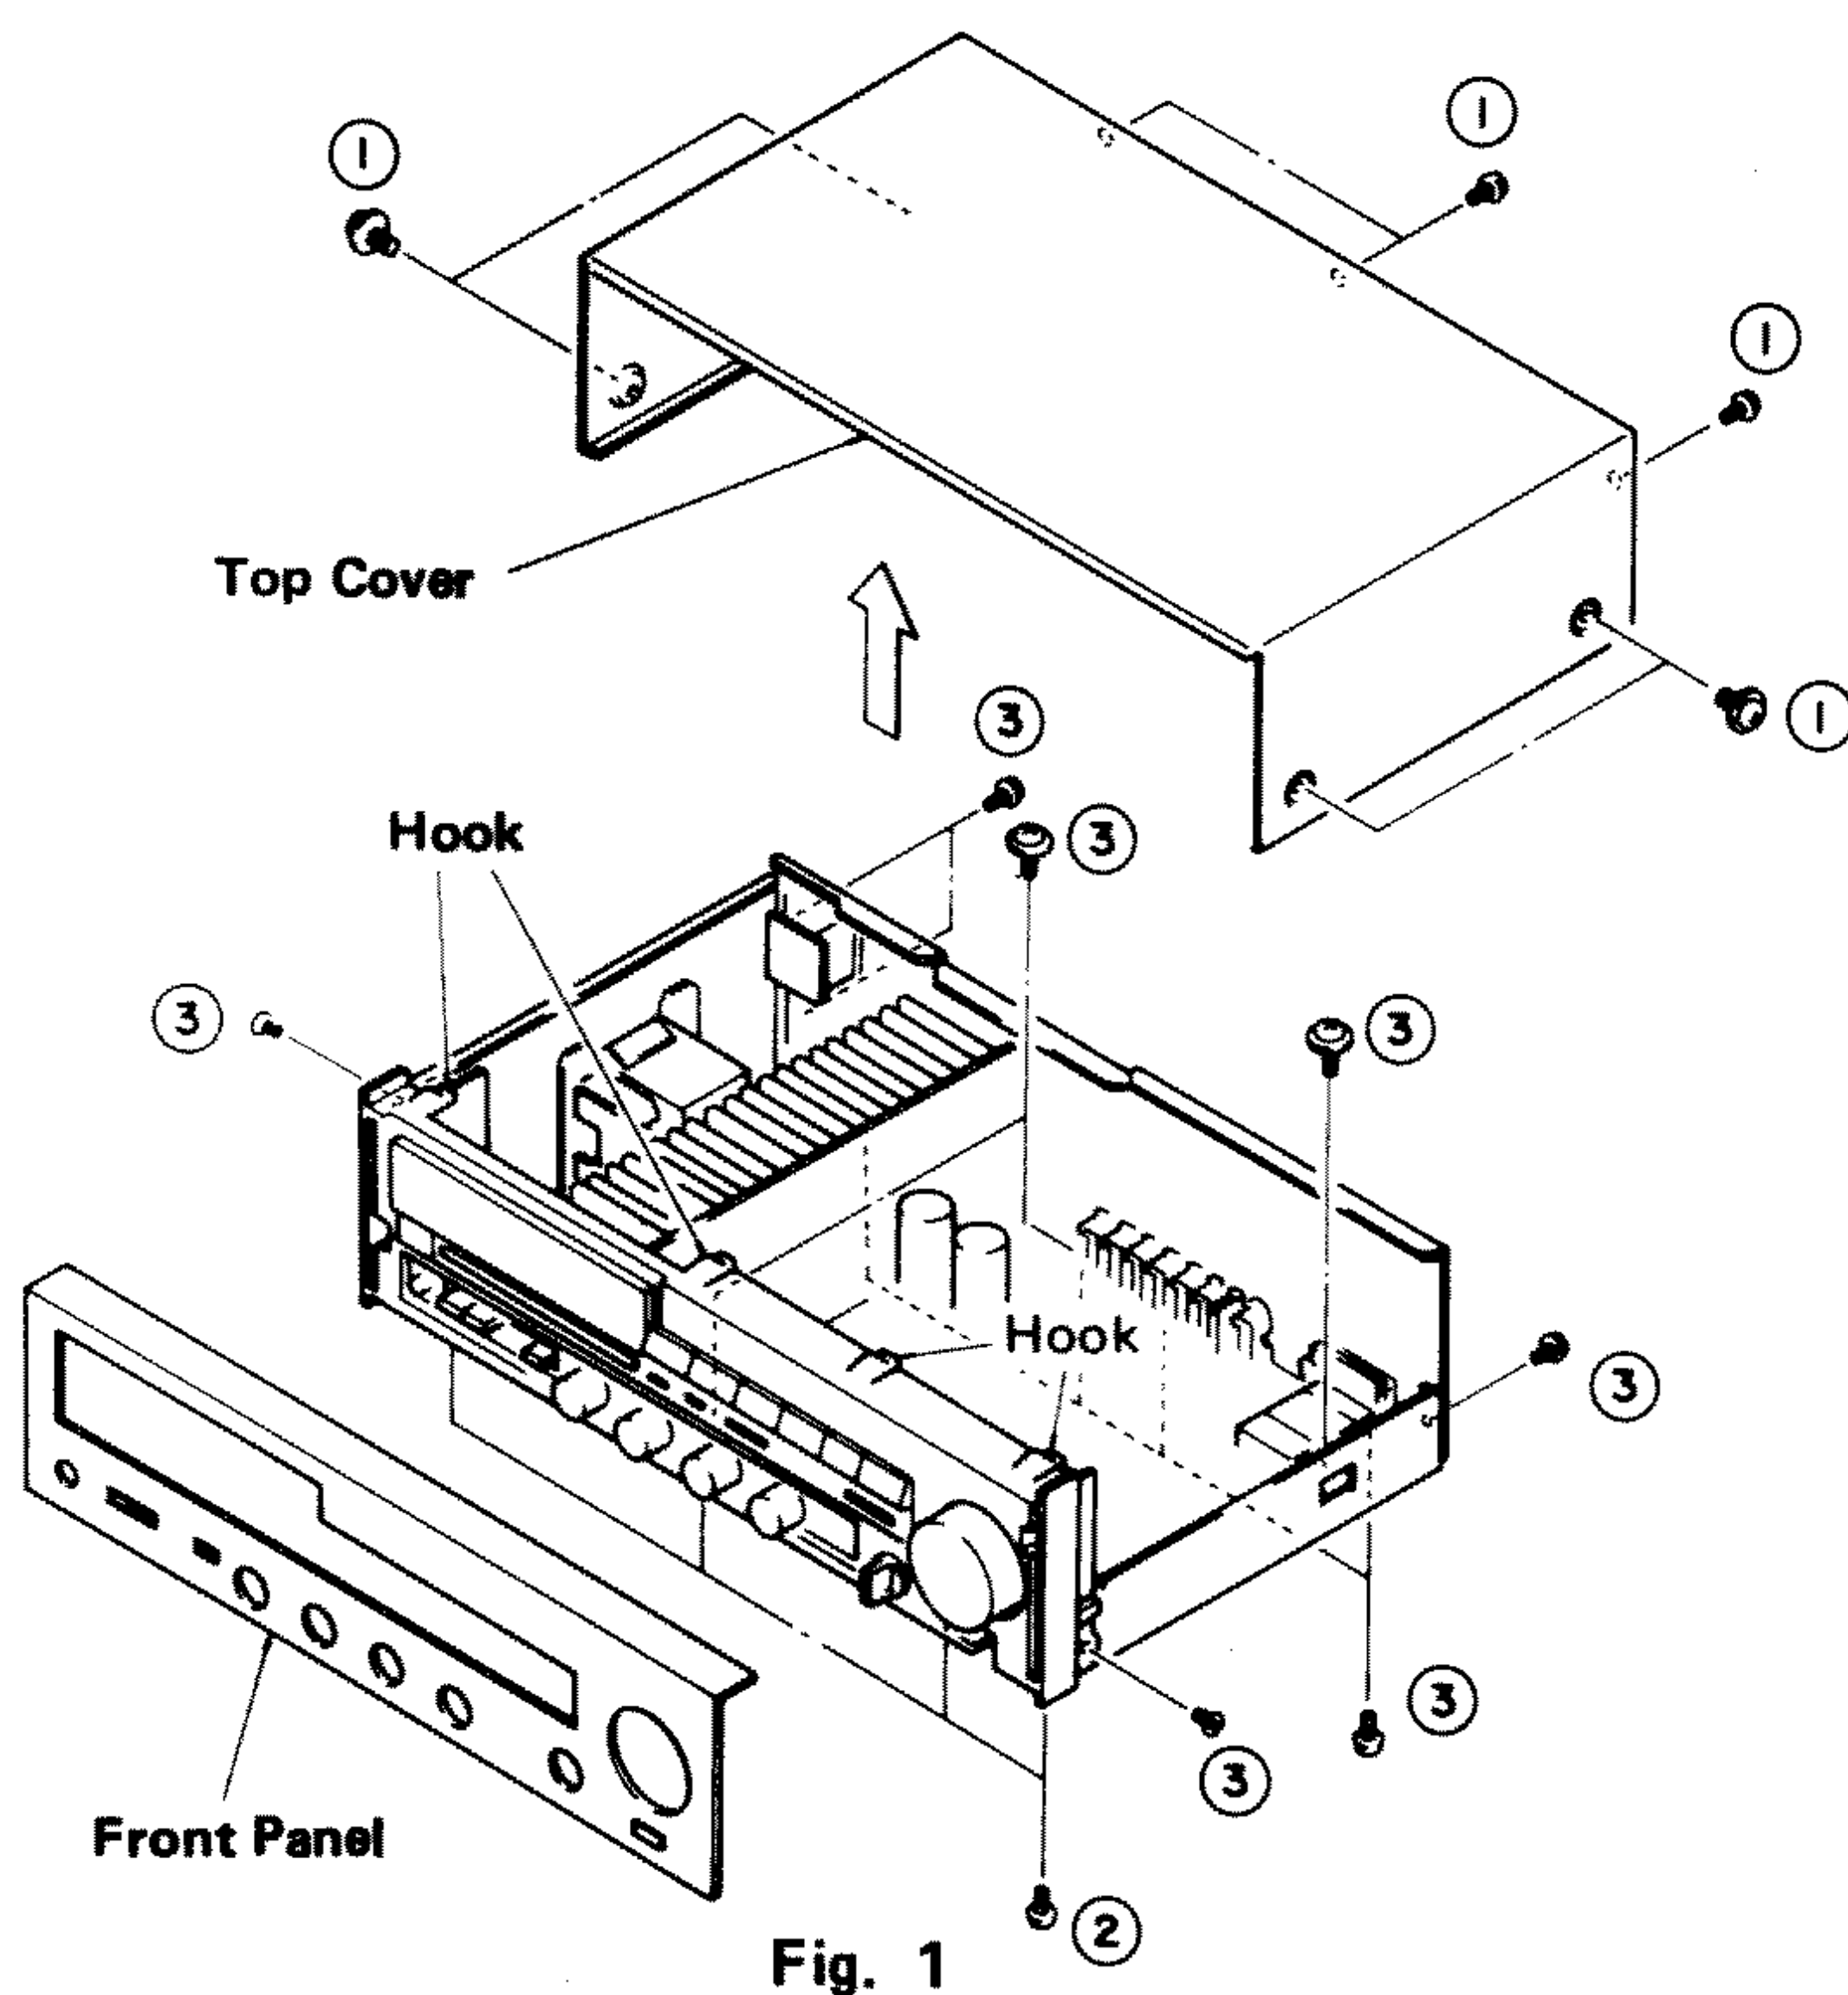

Fig. 1
Remove 7 screws ( ① ) in Fig. 1, and slide the Top Cover back and up.
Remove 4 screws ( ② ) and 4 hooks in Fig. 1, and pull the Front Panel forward.
a. Remove 12 screws ( ③ ) in Fig. 1.